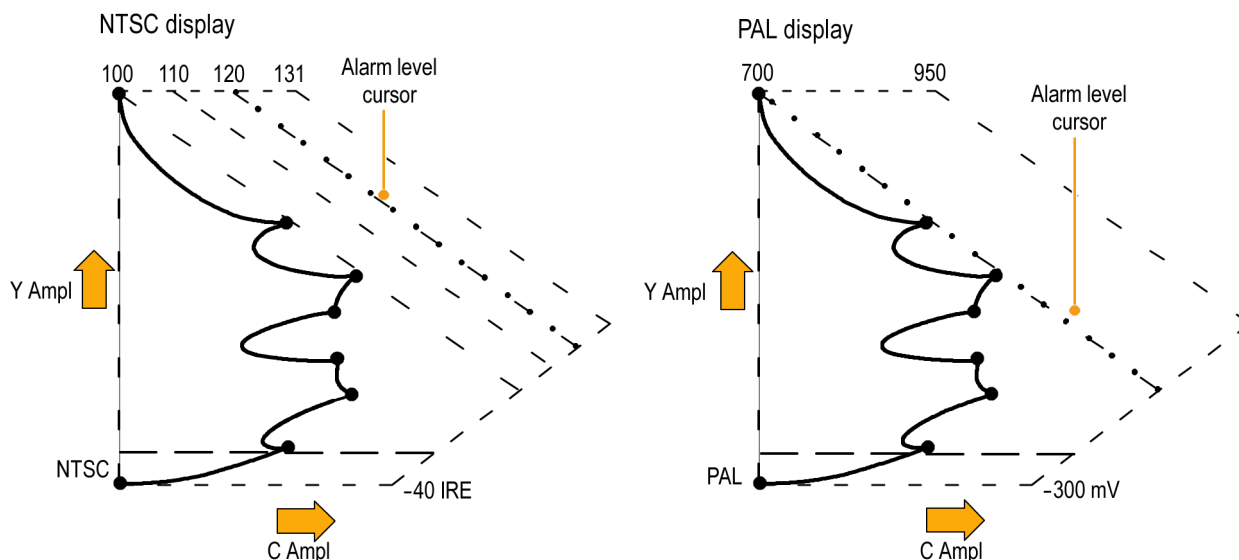

Figure 61: Arrowhead gamut display plots
The Arrowhead gamut display plots luminance (Y) against chrominance (C) to check if the composite signal adheres to standard gamut. NTSC and PAL Arrowhead displays (75% Color bars) and indicates the values of the graticule lines. The arrowhead shape of the graticule results from overlaying the standard limits for luminance and luminance-plus-peak chrominance. (See Figure 61.)